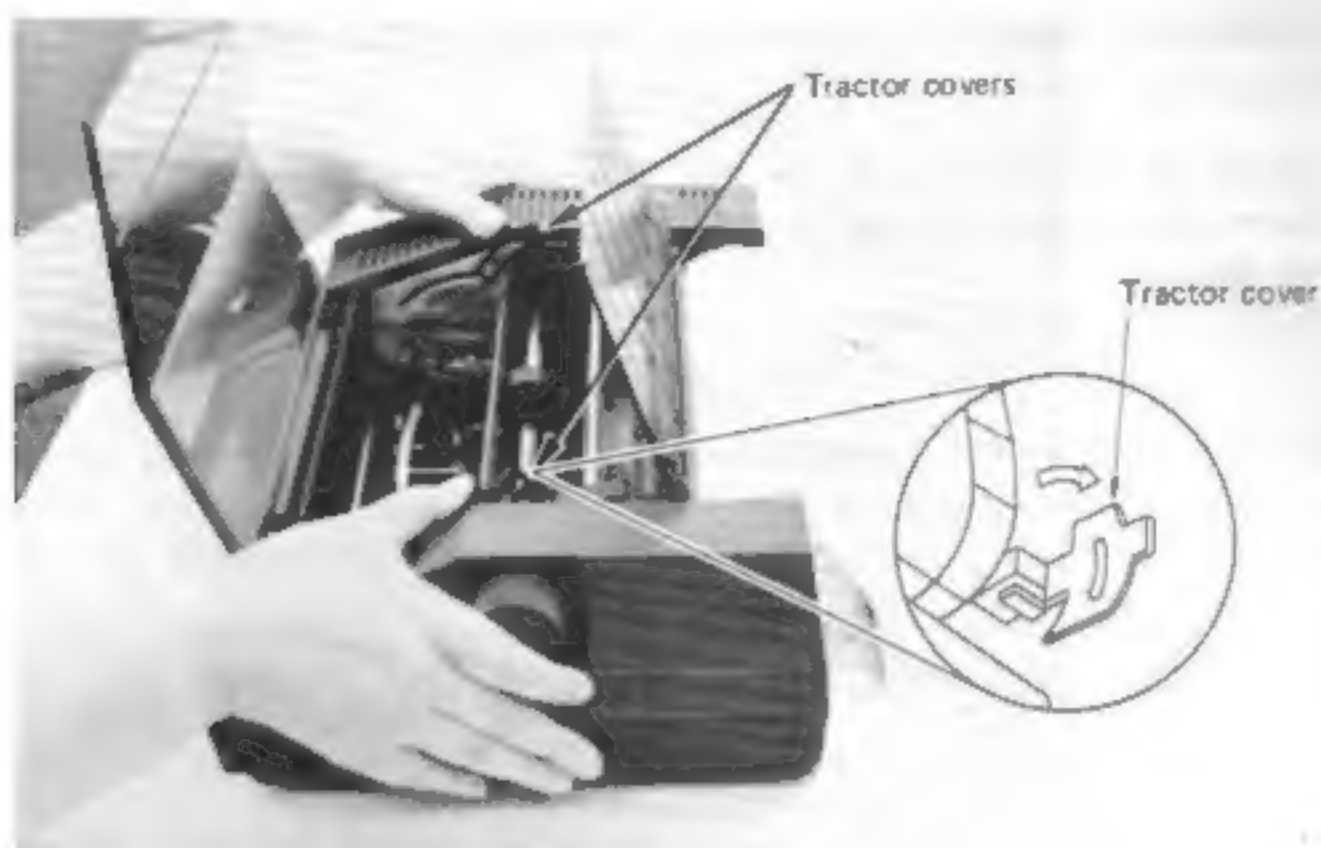

Figure 8
5. Open the tractor-covers by flipping the tops outwards (see Figure 8).